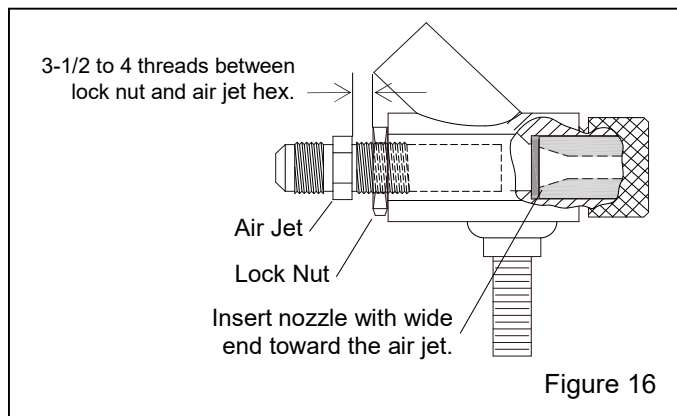

Figure 16
5.4 Air Jet Adjustment – Figure 16
5.4.1 Screw the air jet 4-1/2 to 5 full turns into the gun body, which leaves 3-1/2 to 4 threads exposed past the lock nut. Refer to Figure 16. Tighten the lock nut to maintain the setting. An optional adjusting tool, which correctly positions the jet, is shown in Section 9.5. Instructions are provided with the tool.